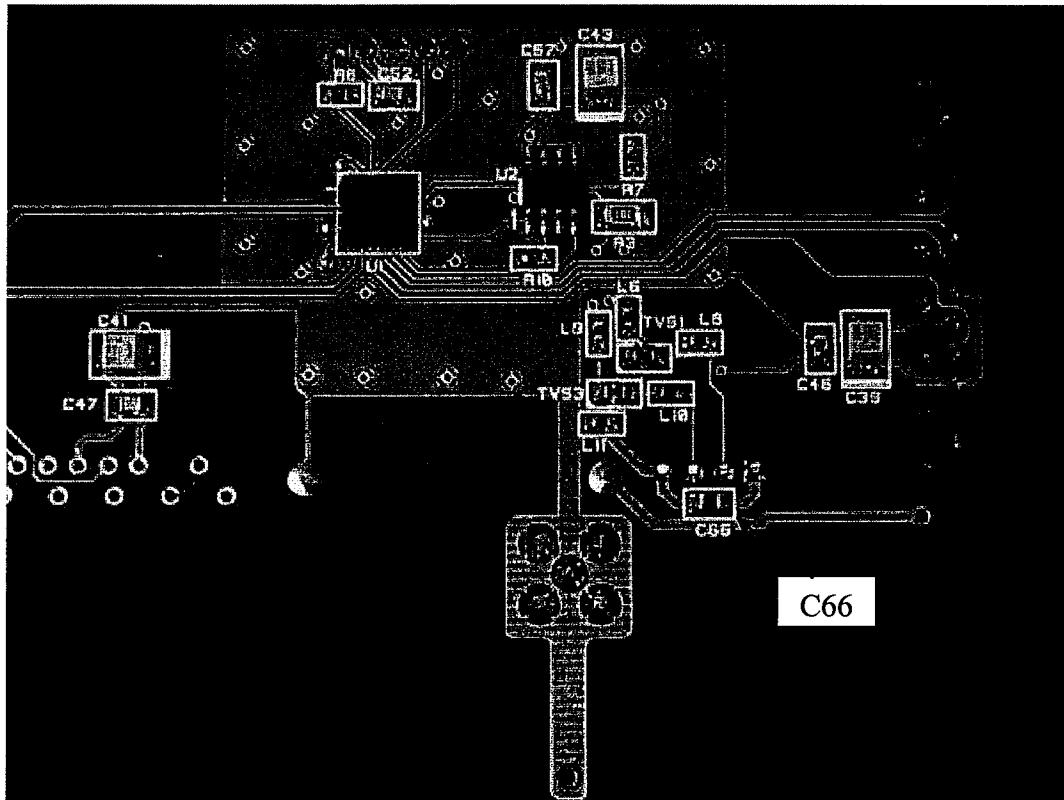

Figure 21
- 9.10.3 Using a DMM measure the voltage across C66 on Test Auto Tune 5 x 7 antenna. It's value should be 7 VDC +/- .3VDC. See Figure 21 for location.